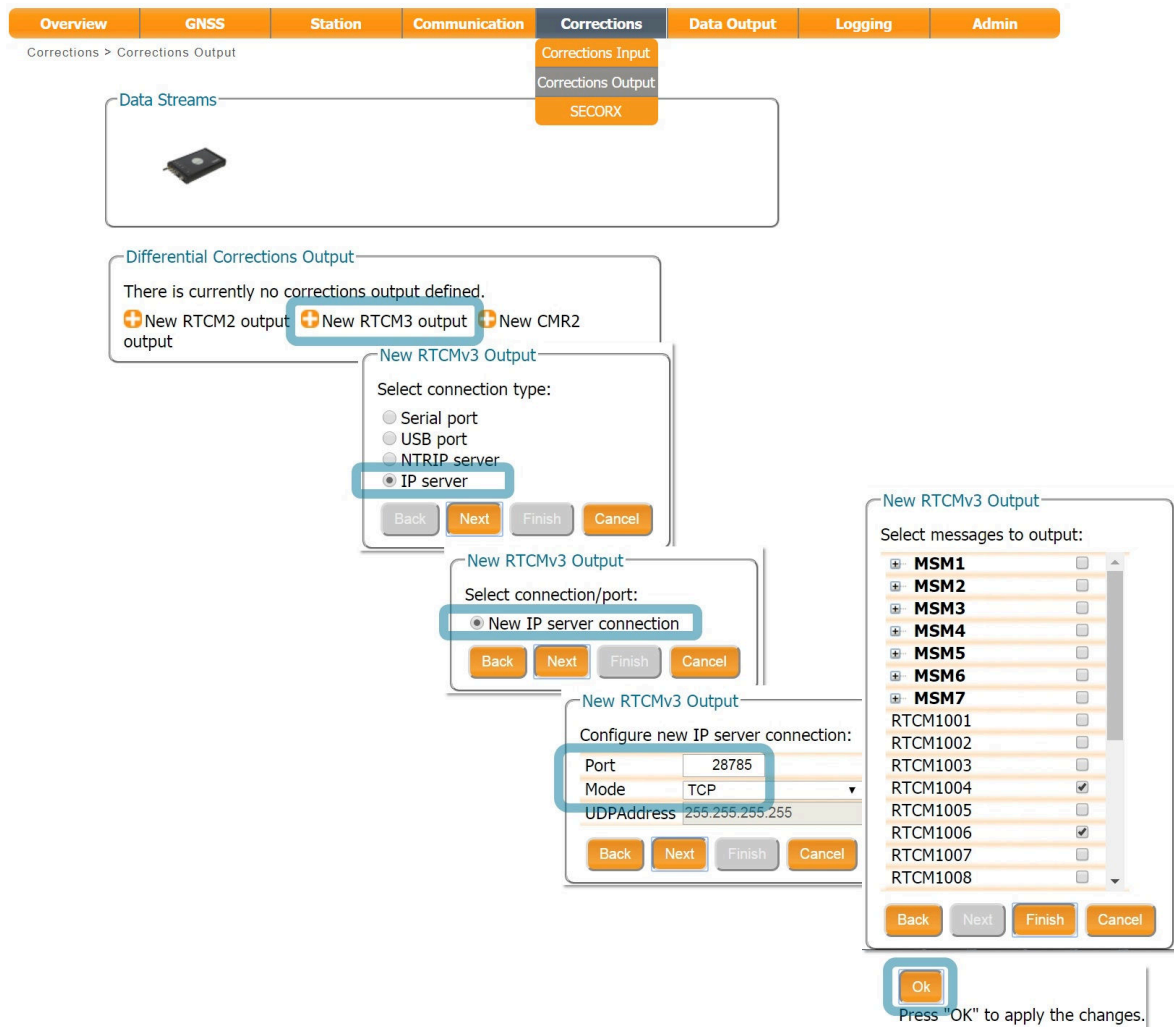

Figure 5-3: Click **New RTCM3 output** to start the configuration steps to output differential corrections over Ethernet
Output of differential corrections can be configured in the **Corrections Output** window as Figure 5-3 shows. Click on **New RTCM3 output** to start the sequence of configuration steps.
Select the Ethernet port you wish to use avoiding the commands port (28784), the webserver port (80), the FTP port (21) as well as the default NTRIP port (2101) and the NTP port (123). The example shown in Figure 5-3 uses port 28785.